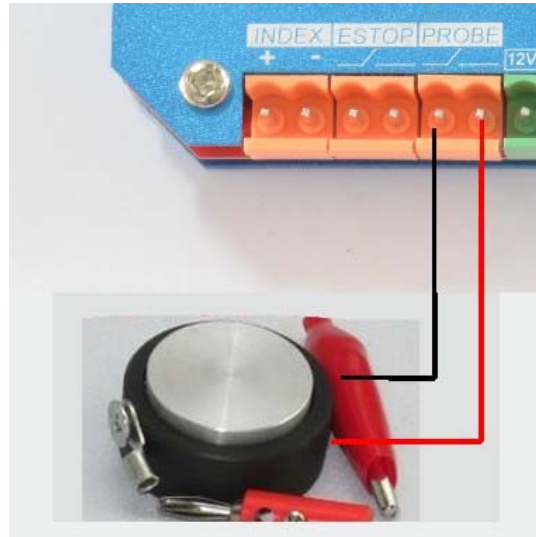
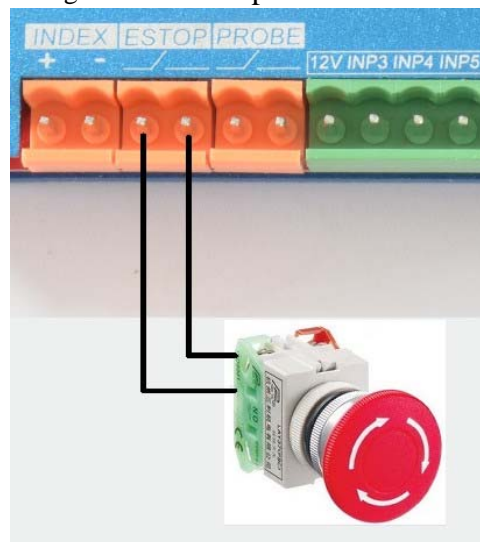
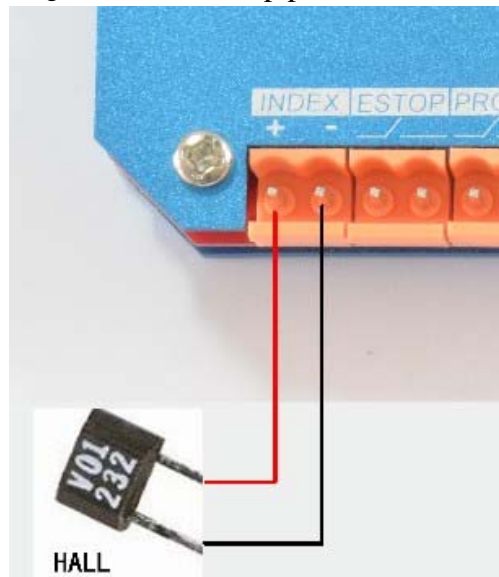

Figure2-9. Probe port connection method
Figure2-10. Estop port connection method
Figure2-11. Index port connection method
- J)Probe/Estop/Spindle speed Index port. Probe port connection method see as Figure 2-9, Estop port connection method see as Figure 2-10, Index port connection method see as Figure 2-11. You should pay attention to positive and negative of the port Inex.